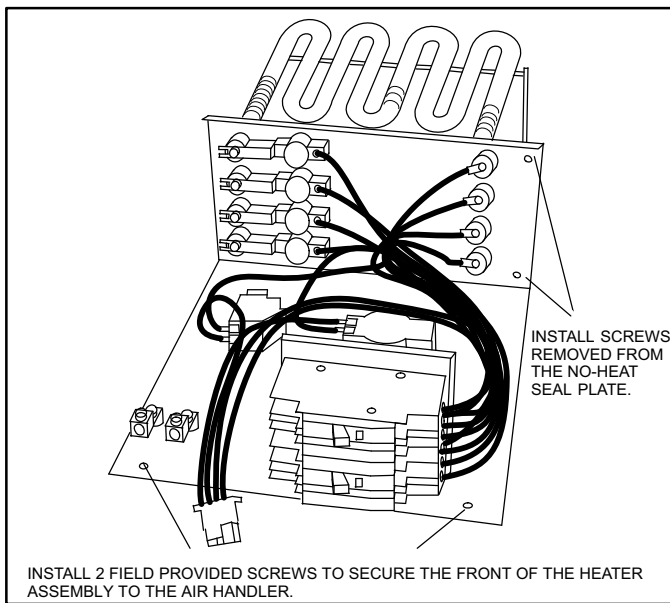

Figure 2. Installing the Heat Element Assembly
6. Secure the electric heater assembly into place with the screws that were removed from the heat element panel. Install two field-provided #8 SDST screws in the front of the electric heater assembly (see figure 2).